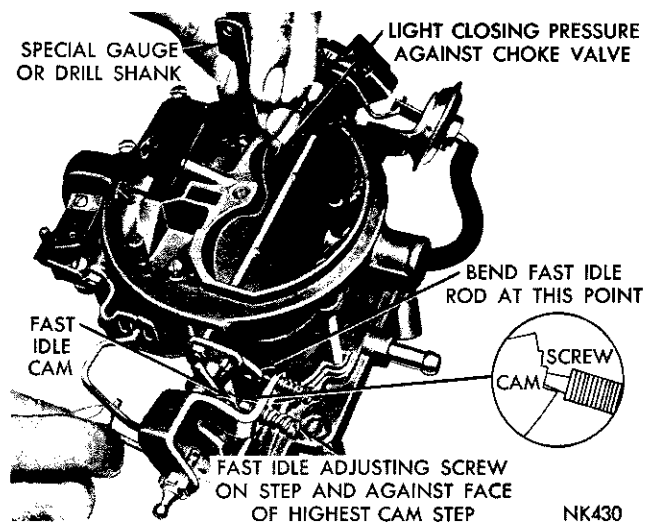

Fig. 17—Fast Idle Cam Position Adjustment
To make the fast idle cam position adjustment refer to (Fig. 17), then proceed as follows:
(1) With the fast idle speed adjusting screw contacting the step on the fast idle cam shown in (Fig. 17), move the choke valve toward the closed position with light pressure. Insert a NO. 41 drill or gauge T109-125 (Auto. Transmission or Manual Trans.) between the choke valve and the wall of the air horn.
(2) An adjustment will be necessary if a slight drag is not obtained as the drill or gauge is being removed.
(3) If an adjustment is necessary, bend the fast idle rod at the upper angle, using Tool T109-213, until the correct valve opening has been obtained.